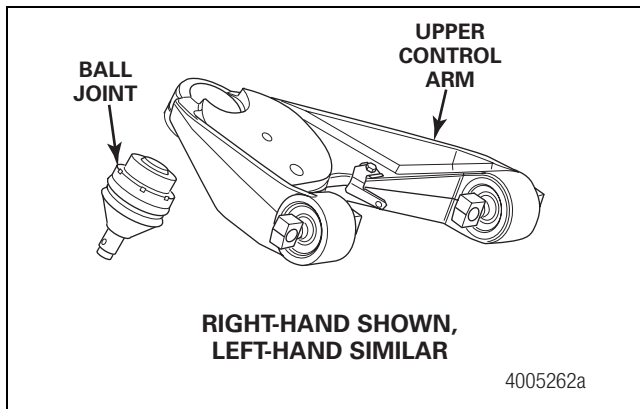
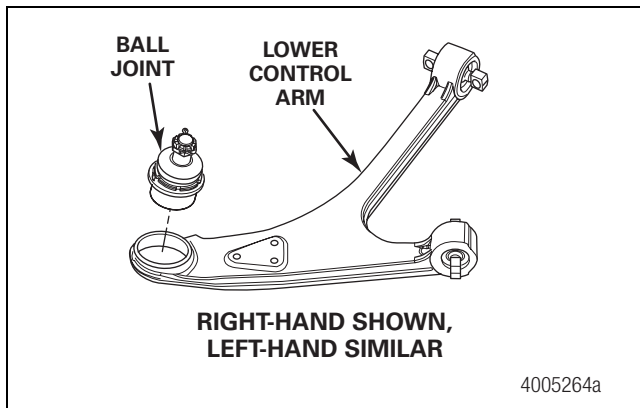

Figure 7.4
Figure 7.5
1. Check the bore for deformed threads, burrs, cracks and damage. Replace as necessary. Figure 7.4 and Figure 7.5.